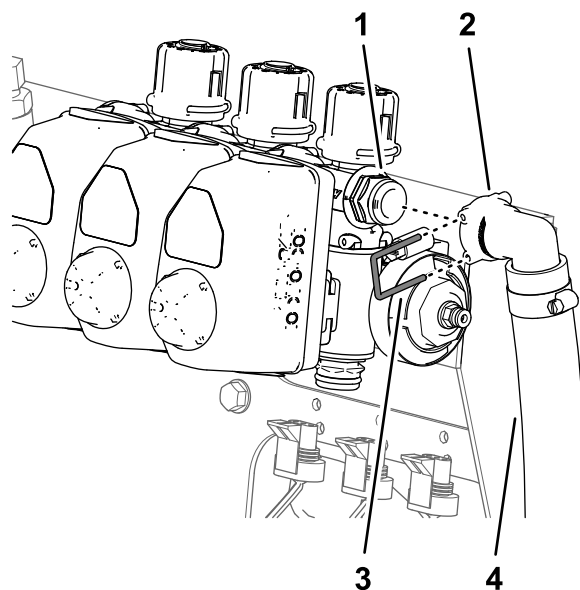

Figure 62
- For machines without the optional hand wand kit or optional electric hose reel kit, remove the small retainer that secures the quick-disconnect fitting of the bypass hose to the quick-disconnect fitting of the right section-bypass valve (Figure 62).